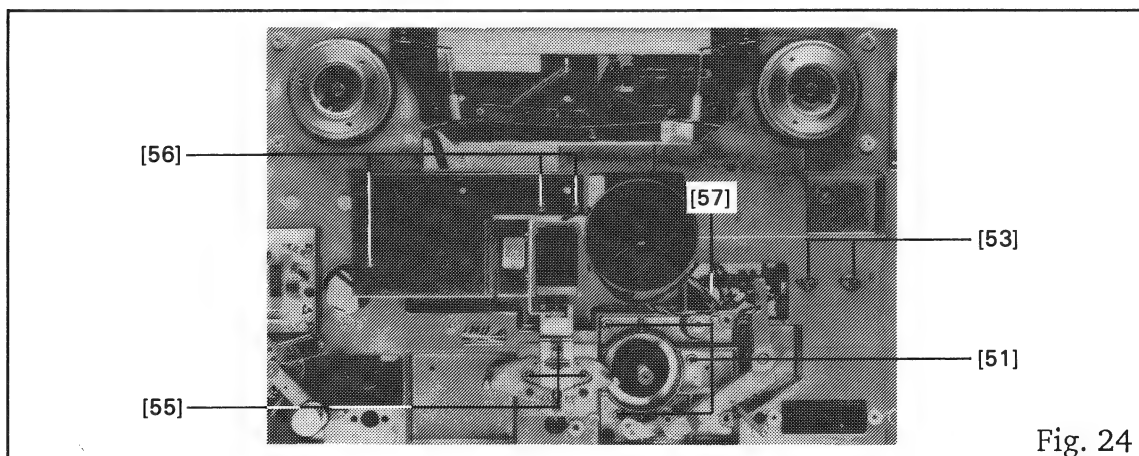

Fig. 24
- Unfasten the 3 screws [51] of the capstan motor flange (Fig. 24), and simultaneously secure the capstan motor with one hand and slide it out.
- Unfasten the 2 hexagon-socket-head screws [53] (Fig. 24) of the pinch roller mounting and slide out the solenoid.